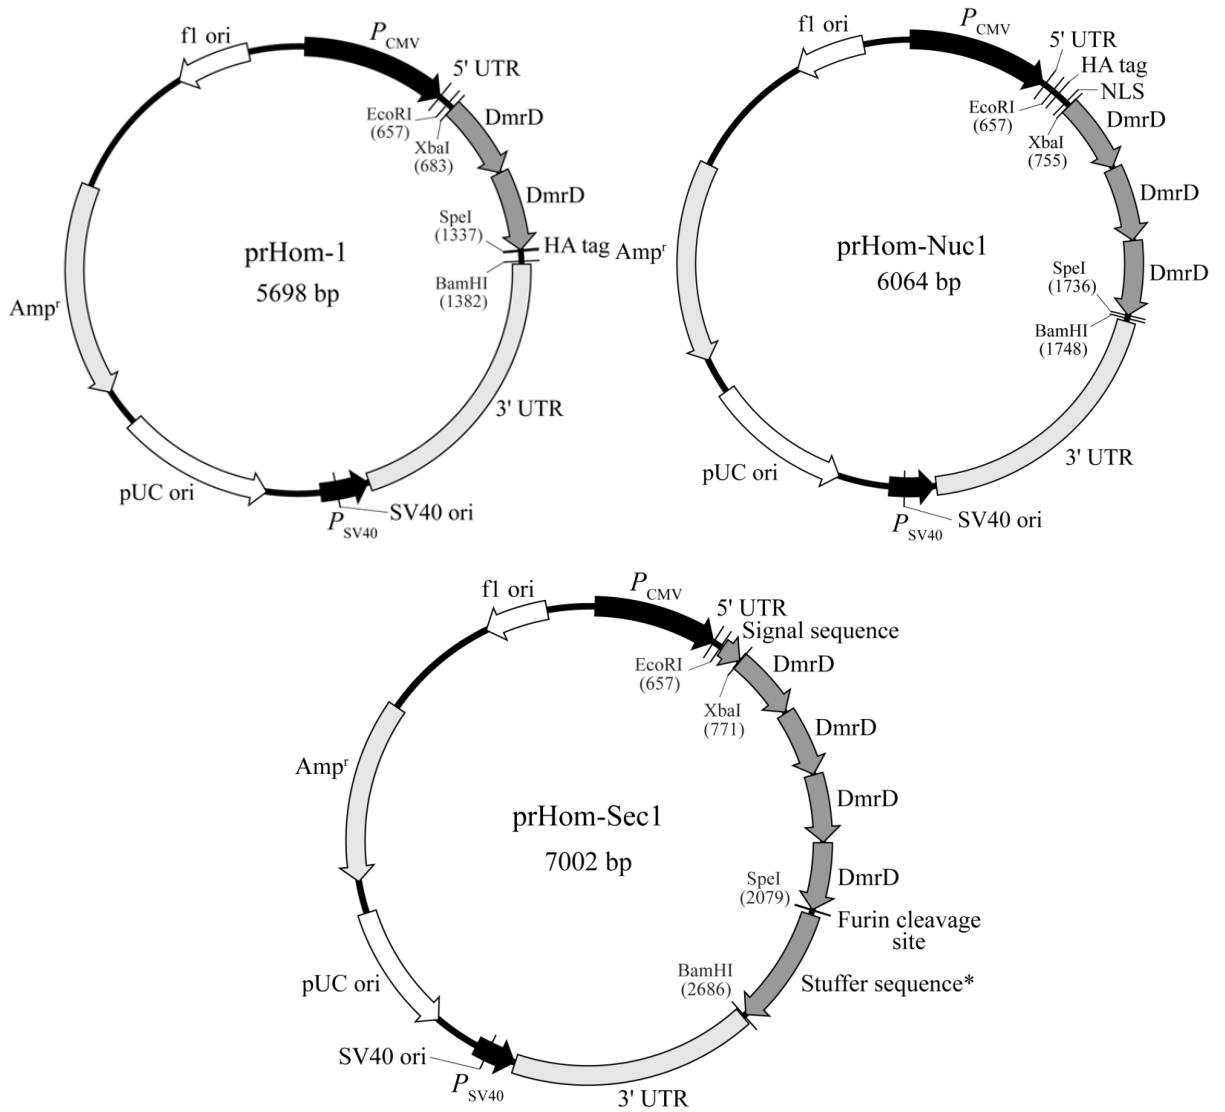

Figure 4. prHom-1, prHom-Nuc1 and prHom-Sec1 Vector Maps.
To control the secretion of your protein of interest, replace the SpeI-BamHI fragment of prHom-Sec1 with an SpeI-BamHI fragment that contains a furin cleavage sequence followed by the mature coding sequence of your protein of interest (Figure 4). This is most easily accomplished by using Clontech's In-Fusion HD Cloning System (see Section III.E). The sequence encoding your protein must not contain a stop codon, and must be in-frame with the downstream DmrD domains. Since a fusion protein created using prHom-Sec1 contains a secretory signal sequence, as well as four tandem DmrD domains, this protein will form aggregates in the endoplasmic reticulum that prevent it from being transported through the secretory pathway. Adding D/D solubilizer dissolves the aggregates and allows the protein to be secreted by the cell.
- Fusion proteins that localize to the cytoplasm and nucleus are created by cloning signaling proteins of interest into either the XbaI site or the SpeI site of the prHom-1 and prHom-Nuc1 vectors, respectively (Figure 4). Cloning into the XbaI site places the DmrD domains at the C-terminus and cloning into the SpeI site places the DmrD domains at the N terminus of your protein of interest.
- A hemagglutinin (HA) epitope tag located between the SpeI and BamHI sites in the prHom-1 and prHom-Nuc1 vectors is expressed at the C-terminus of fusion proteins created using either vector. This tag is useful for determining subcellular protein localization, facilitating protein purification, identifying associated proteins, and characterizing new proteins by immunoprecipitation (HA-Tag Polyclonal Antibody, Cat. No. 631207).
Create fusion proteins containing the DmrD domain and your protein of interest with the prHom-Sec1, prHom-1 and/or prHom-Mem1 vectors, using the following cloning strategies (For vector map information (see Figure 4).